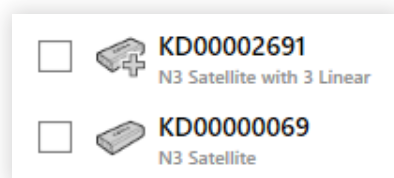

fig. 26
Discovered devices will appear in the top-right part of the screen, as in fig. 26.
**Note:** An N3 with linear attached will look roughly the same as an N3 without linear attached. (See fig. 26.) Read the description beneath the serial number to tell them apart.